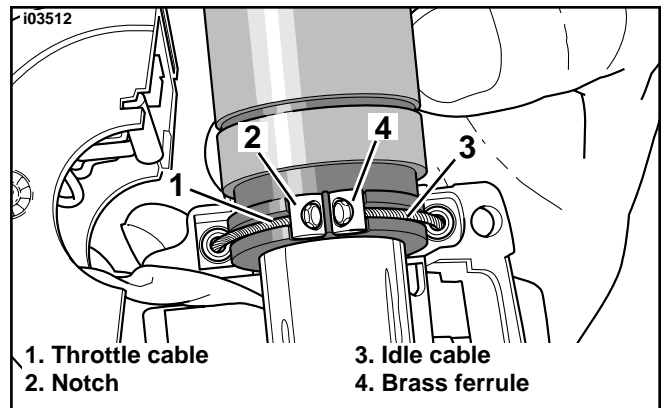

Figure 4. Throttle/Idle Control Cables
6. See Figure 4. Loosen the cable adjuster jam nuts. Screw the cable adjusters in until they are as short as possible. This will provide enough slack for easy removal.
31. Refer to Figure 4. Apply graphite lightly to the throttle grip inside the switch housing and on the throttle end of the handlebar.
36. Refer to Figure 4. Position the lower switch housing beneath the throttle-control grip. Install two brass ferrules from the throttle/ idle cable kit onto the cables, seating the ferrules in their respective notches on the throttle control grip. The cables must be captured in the grooves molded into the grip.